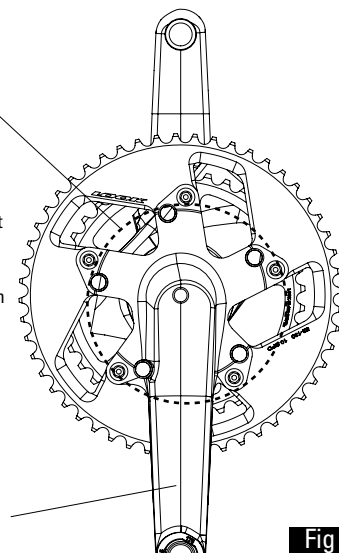

Fig 5
- That 130mm bolt patterns are placed on the outermost of the spider and 110mm bolt patterns are placed on the innermost holes as shown in Figure 5.
- That the LOOK engravings are in the direction shown on figure 5 for LOOK specific chainrings.